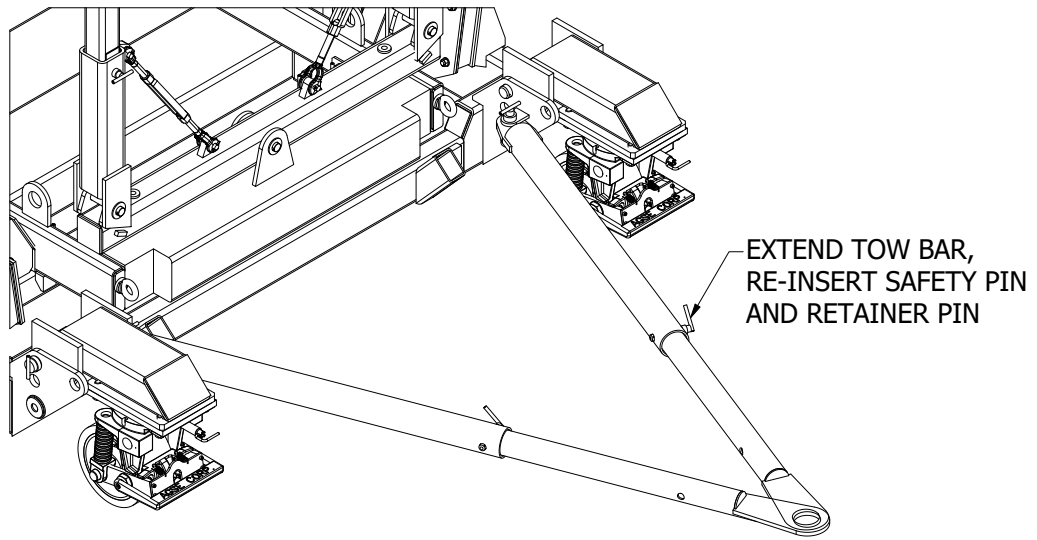

Figure 5.3-4
- 7). Bring the two tow bars together to attach to a tow vehicle. (Figure 5.3-4).